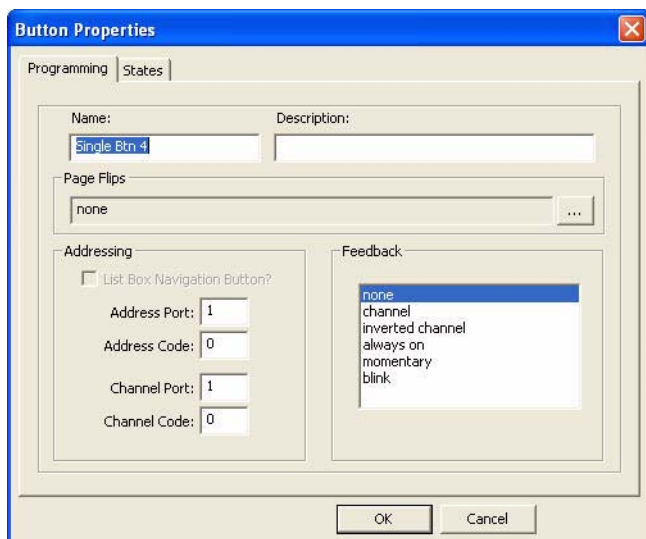

FIG. 32 Button Properties dialog - Programming tab
2. Select **Properties** to access the *Button Properties* dialog - *Programming* tab (FIG. 32).